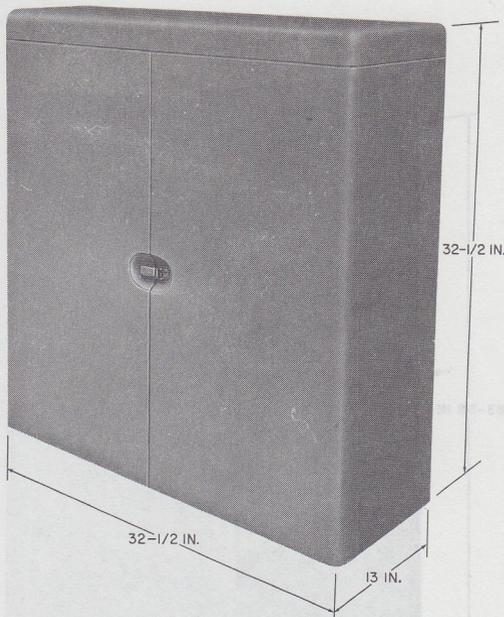

Fig. 13—Floor-Supported Cabinet per ED-69488-50, Group 1
4.02 The floor-supported cabinet per ED-69488-50, Group 1 (Fig. 13) is a steel cabinet, light olive gray in color, designed to take one 26A apparatus mounting and ED-69366-50, Group 3 terminal plate assembly. It can be ordered with or without apparatus mounting and terminal plate assembly. The terminal plate assembly is mounted on top of the apparatus mounting. The sides and ends are removable in two halves by removing the lift-off top and releasing a spring catch on each set. This allows lowering of hinged tracks on which the apparatus mounting rolls. Approximately 30 inches of clear space in front of the cabinet are required to allow complete lowering of track. Provision is made for floor mounting when required.